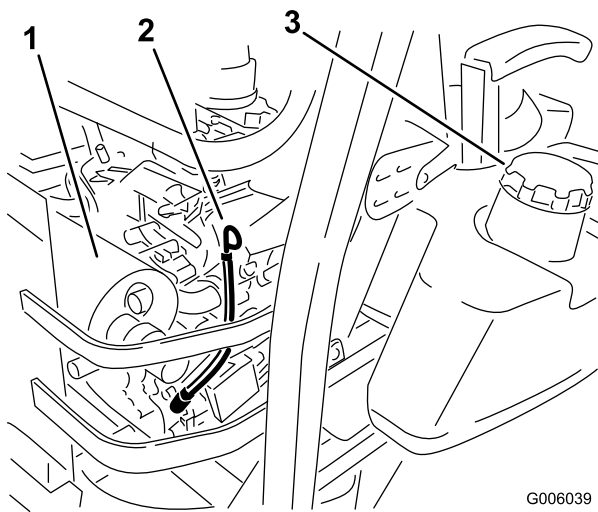

Figure 34
5. Clean around the oil dipstick (Figure 34) so dirt cannot fall into engine.
6. Pull the oil dipstick and wipe the metal end clean (Figure 34).
7. Slide the oil dipstick fully into the engine. Pull the dipstick out and look at the metal end (Figure 34). If oil level is low, slowly pour only enough oil into the filler tube to raise the level to the full mark.